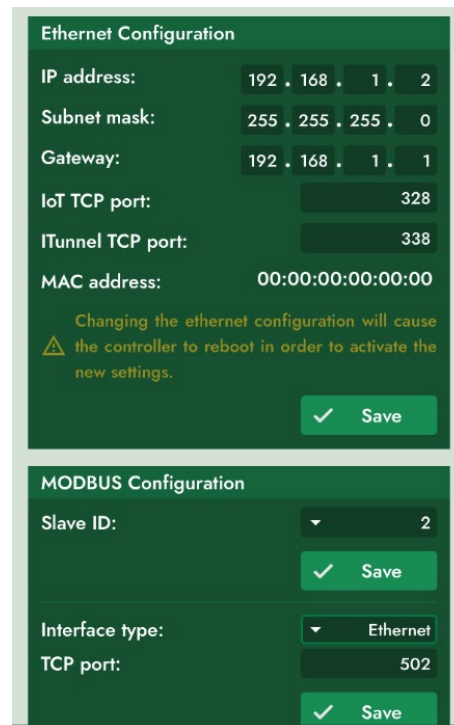

Figure 7: Mobile App – System Setup – Ethernet
- Select “interface type” as Ethernet (figure 7)